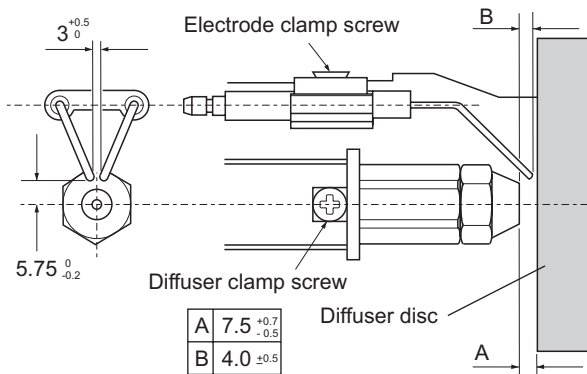

Fig. 31
- 3 **Check the electrode and diffuser settings** - Fig. 31
To adjust the diffuser disc: Loosen the diffuser clamp screw and slide the disc along the nozzle holder to achieve the gap 'A' in Fig. 31, tighten the screw.
To adjust the electrodes: Loosen the electrode clamp screw and move the electrode unit to achieve the gap 'B' in Fig. 31, tighten the screw.